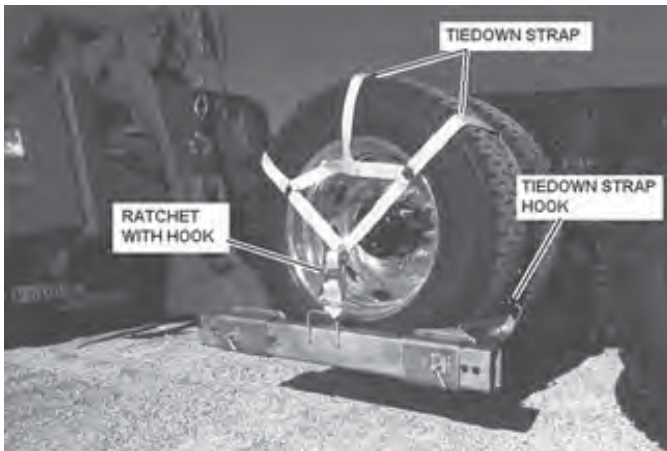

FIGURE 4A.12
- (j) Attach tiedown strap hooks to outer crosstube and tire support and place strap over tire as shown in Figure 4A.12.
- (k) Release tie down strap ratchet and pull out sufficient length of strap to insert ratchet hook into hole in the adjustment tube. Refer to Figure 4A.12.